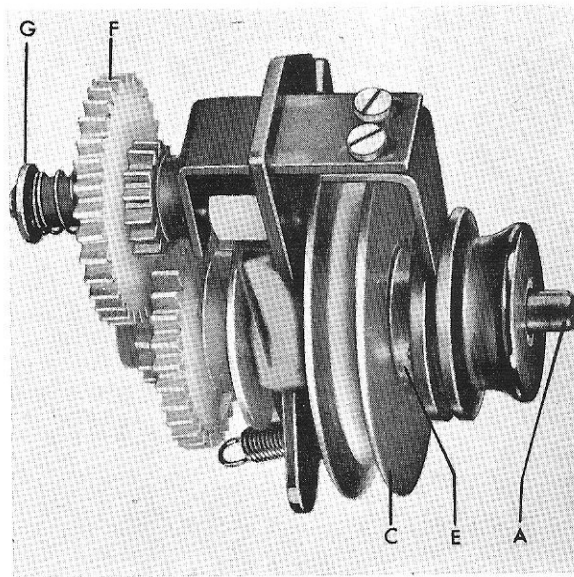

Fig. 23
- b. Loosen the two set screws (E, Fig 23) that hold pulley C to shaft A.
- c. Remove C-washer 2895-205 (G, Fig. 23) and also the washer and spring and upper gear (F, Fig. 23).
- d. Remove shaft S-11882 (A, Fig. 23). Reduction gear is re-assembled in reverse order of the foregoing.